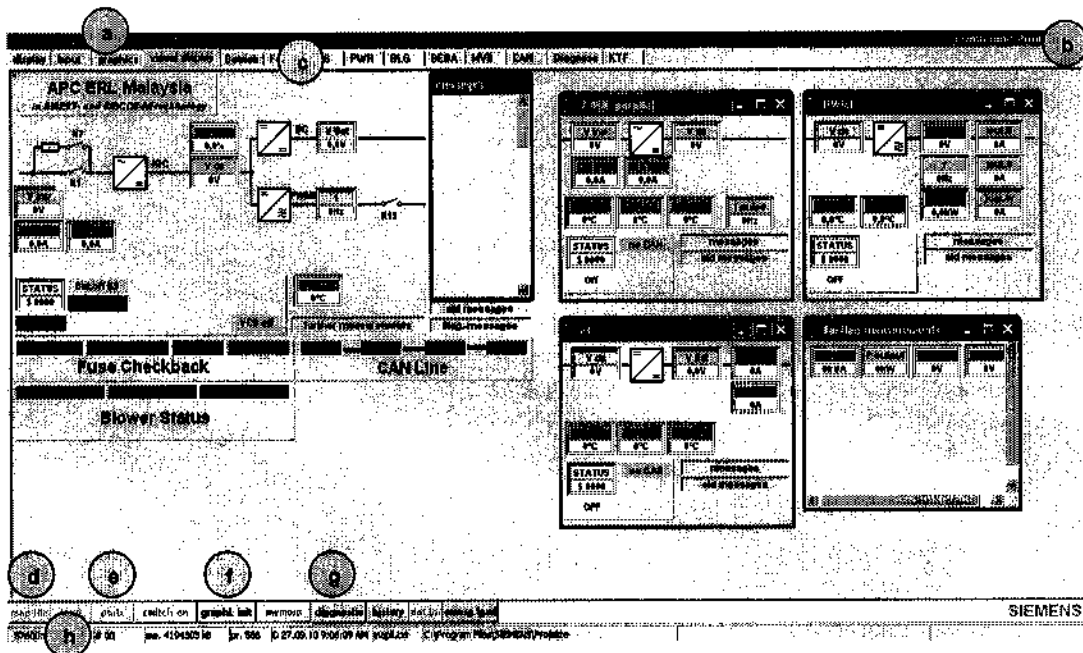

Figure 5.1: SIBMON overview for M1300 (Master project)
1) **APC side COM port or at M1300 (Master project SIBMON)**. This displays all variables available on M1300 (Refer Figure 5.1 for image). It shows:
- e. M1300 status - This indicates which step of that controller is currently in. Refer item 6.2.5 for details.